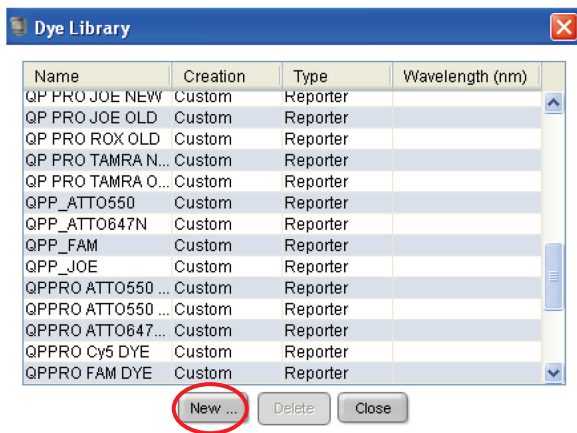

Figure 17. Selecting new dye calibration from the Dye Library.
15. In the **Dye Library** window click **New** (Figure 17).